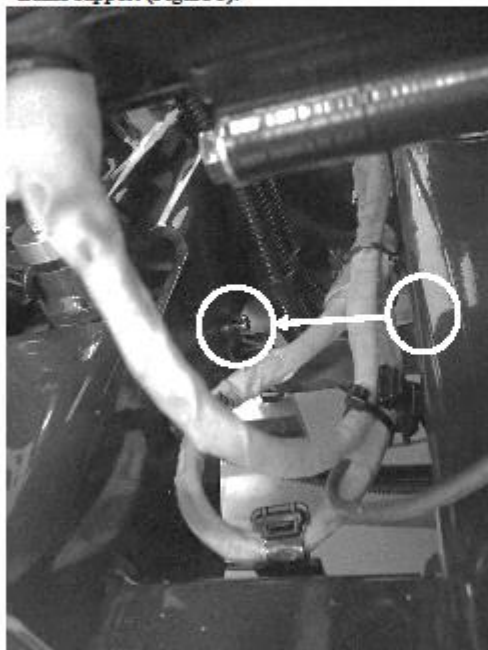

Figure 3
- Relocate the low voltage harness support and bolt from the generator frame support to the compressor frame support (Figure 3).